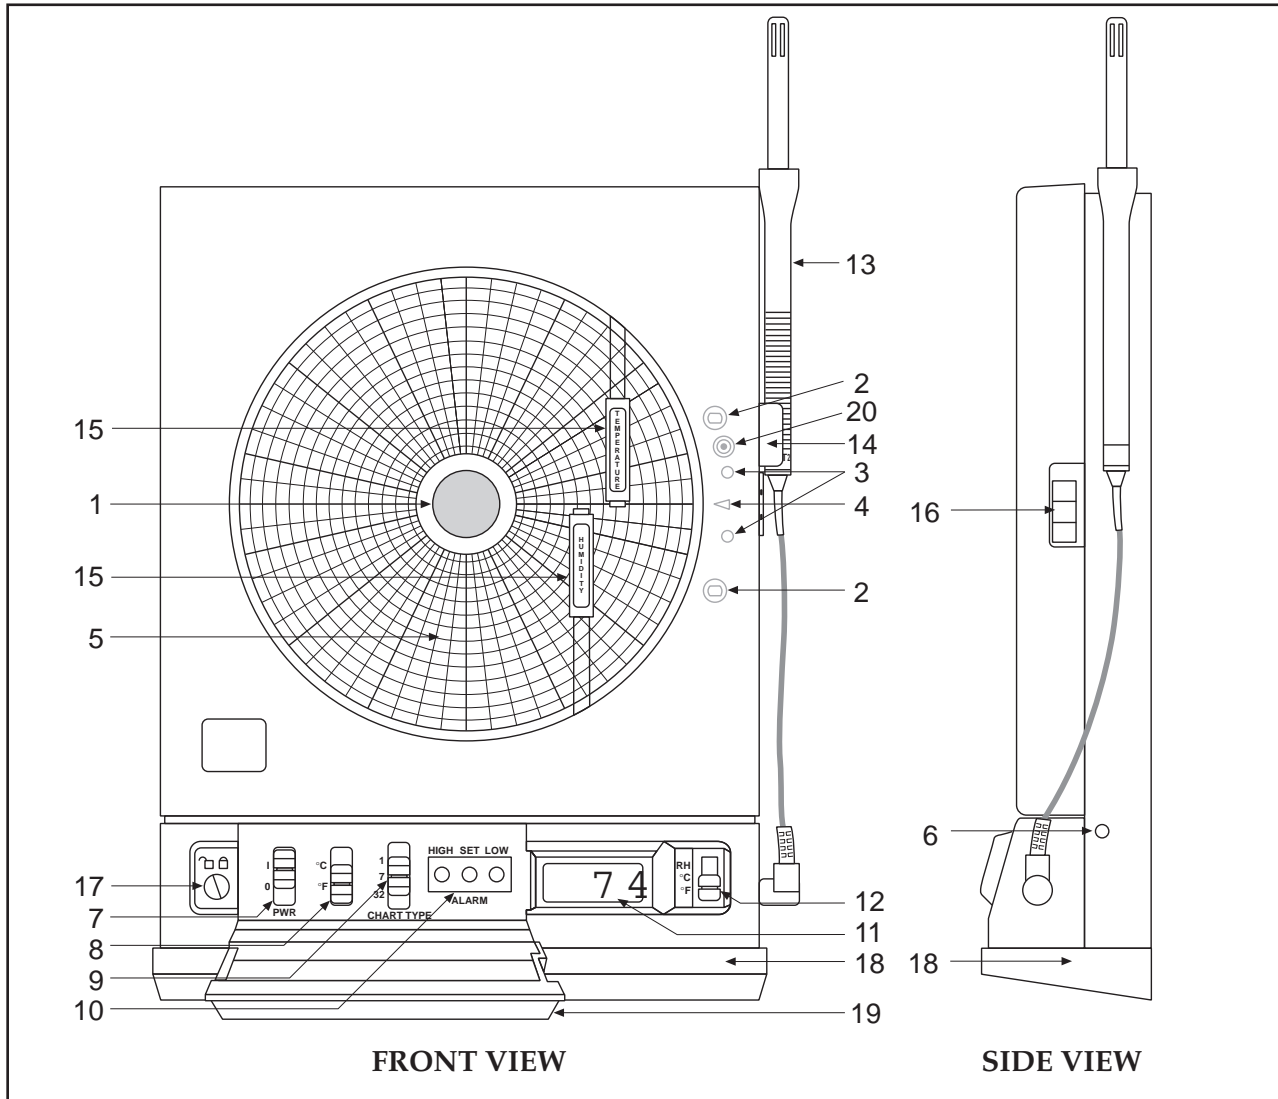

Figure 1-1. Front and Side Views of the Recorder
To mount the recorder on the wall, first locate the wall mounting holes using the template provided in the wall mounting kit. Leave the decorative foot cover (Figure 1-1, item #18) in place\*. After drilling the holes, insert the wall anchors and put in the screws, leaving  $\frac{1}{8}$  inch (3 mm) between the screw heads and the wall. Hang the recorder by positioning the two (2) "keyholes" in the rear cover over the screw heads.
The recorder can be ac powered using the 9Vdc, 1Amp ac adaptor supplied. The ac power jack is located on the right side of the unit (refer to Figure 1-1, item #6.). Make sure the power switch on the control panel (refer to Figure 1-1, item #7) is in the OFF or "O" position when plugging in the ac adaptor. The adaptor cable is 6 feet (2 meters) long.